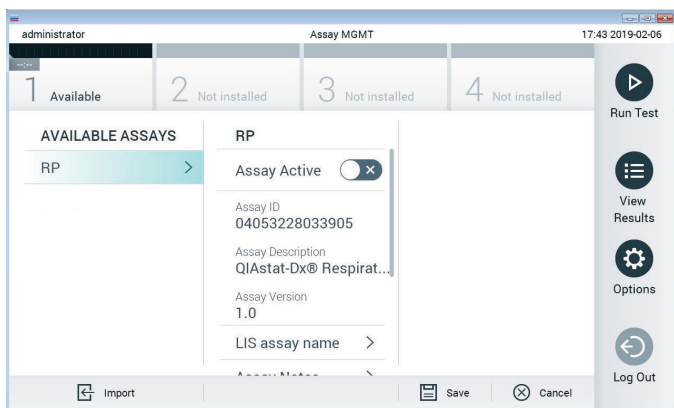

Figure 36. Assay Management screen.
2. Press the **Options** button and then select **Assay Management**. The Assay Management screen appears in the Content area of the display (Figure 36, next page).